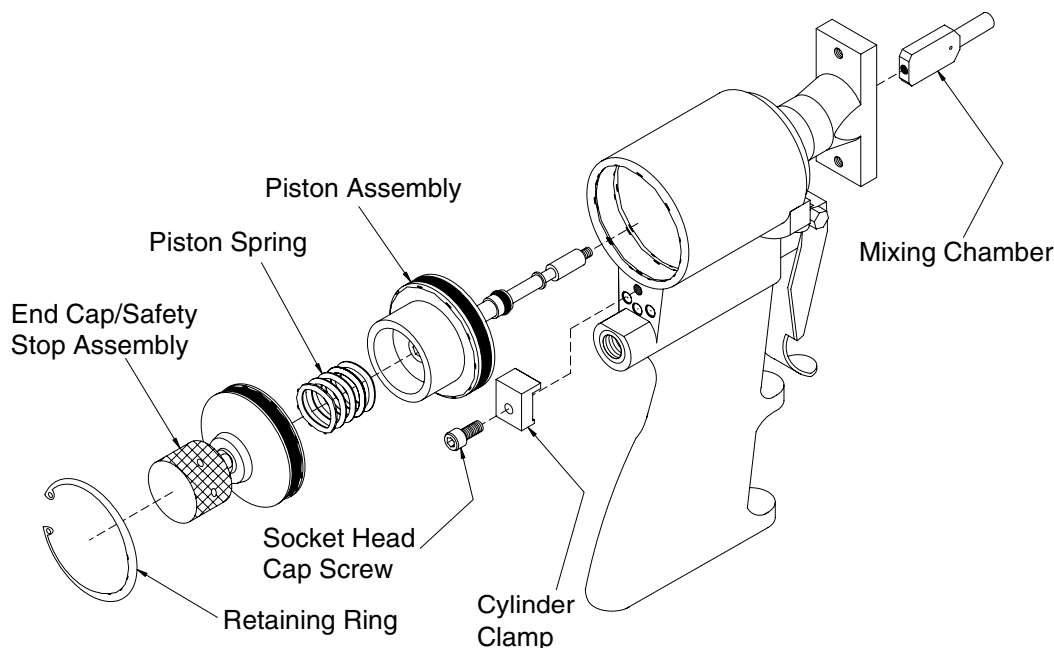

FIG. 11. End Cap and Piston Assembly
4. See FIG. 11. Use a 3/16 in. wrench or needle-nose pliers to hold end of piston shaft while unscrewing mixing chamber by hand.
14. Install piston assembly into the air cylinder. See FIG. 11.